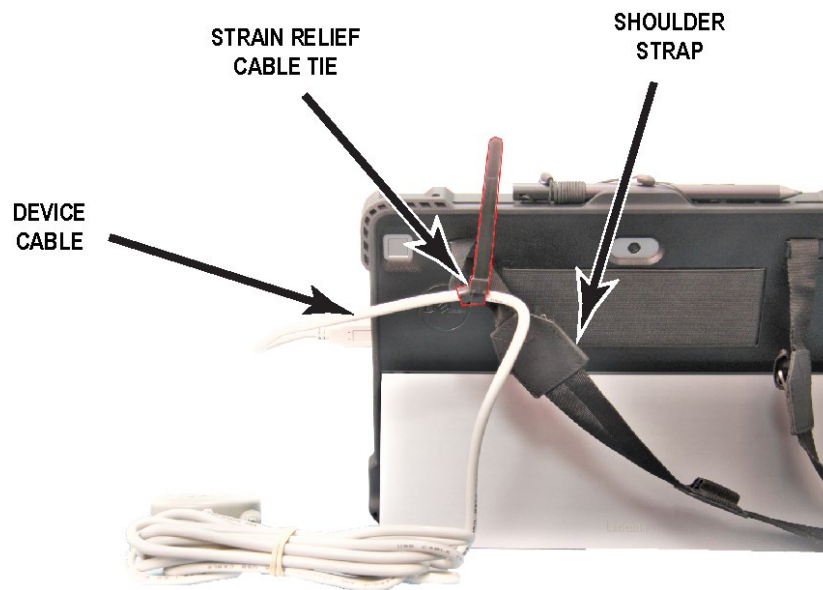

Figure 21. Strain Relief Cable Tie.
1. Connect NATO power cable to input cable jack (see **Figure 21**).
2. Connect output cable to output cable jack (see **Figure 21**).
4. Check output present LED and ensure it is lit (see **Figure 21**).